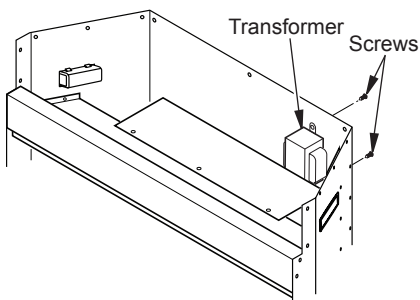

Figure 12 - Removing Transformer
3. Remove screws from outside of firebox surround to remove transformer (see Figure 12).